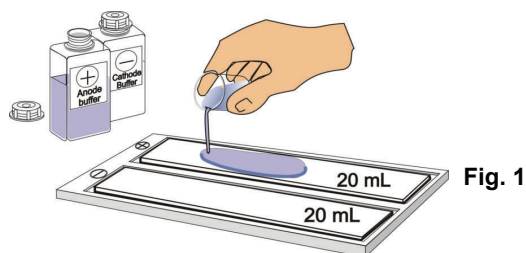

Fig. 1
2. Lay two electrode wicks into the compartments of the PaperPool. Apply 20 mL of the respective electrode buffer to each wick and allow to soak for at least 10 minutes (Fig 1).